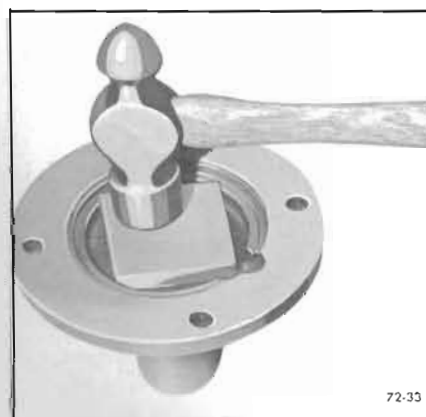

Figure 72-33—Installing Front Bearing Retainer Seal
1. Using a suitable tool, drive new seal into position. See Figure 72-33.